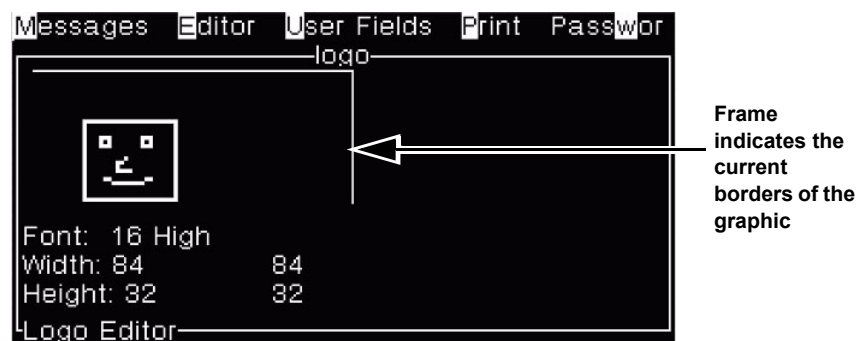

Figure 5-33: Graphic Cropping Function
- 3 Press Enter to see the appearance of a frame depicting the current boundaries of the graphic (Figure 5-33).